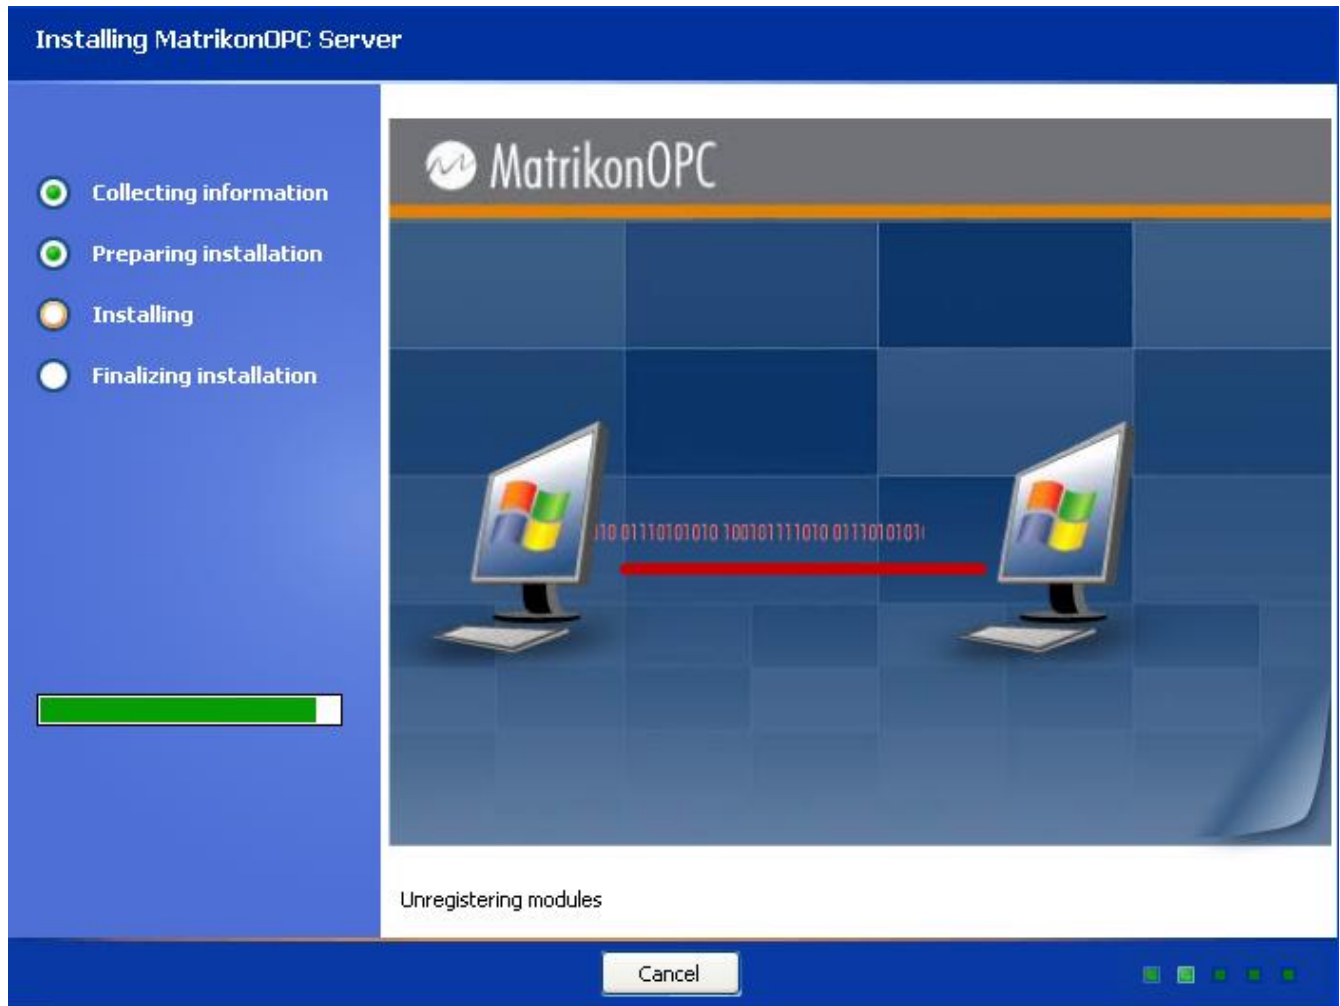

Figure 92 - Installing MatrikonOPC Server Screen
19. Click on the **Next** button. The **Installing MatrikonOPC Server for SCADA Modbus** screen (Figure 92) appears, installation begins, and the product files are copied to the computer.